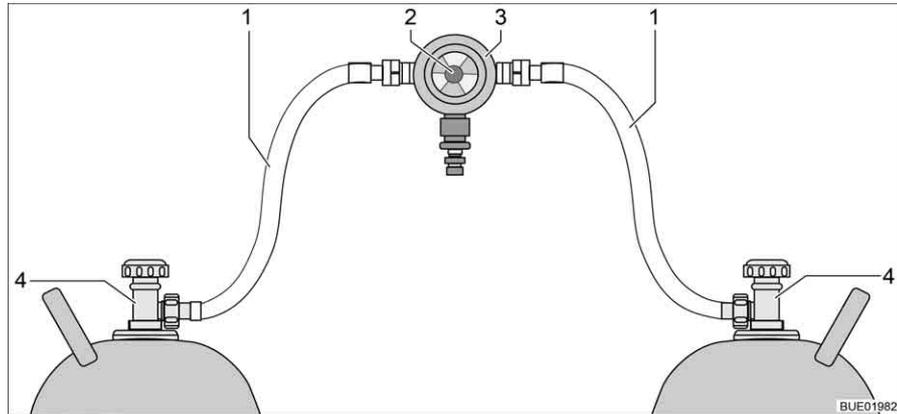
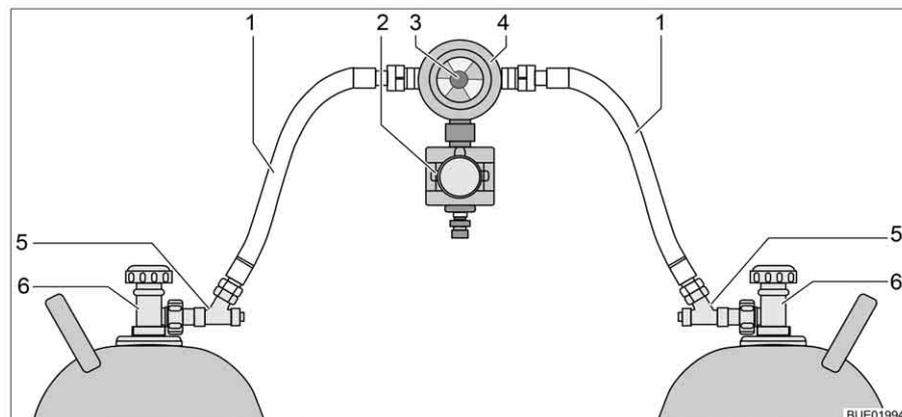

Fig. 112 Gas bottle switching facility
Fig. 113 Gas bottle switching facility with CPU
The gas bottle switching facility consists of a combined gas pressure regulator with reversing valve and indicator (Fig. 112,3). The gas bottle switching facility is installed between the two gas tubes (Fig. 112,1).
The gas bottle switching facility consists of a combined gas pressure regulator with reversing valve and indicator (Fig. 113,4), and an electrovalve (Fig. 113,2). The electrovalve blocks the gas supply to the vehicle in the event of a full braking, an accident, or an unusually great inclined position. The gas bottle switching facility is installed between the two gas tubes (Fig. 113,1) with hose break guards (Fig. 113,5).
**Function** The gas bottle switching facility ensures a constant gas pressure, regardless of which gas bottle is being drawn upon. The display in the reversing valve shows the filling level of the primary bottle. The gas supply comes from the primary bottle when the display is green. When the display is red the primary bottle is empty. In this case, the reserve bottle is used for the gas supply. Use the knob (Fig. 112,2 or Fig. 113,3) on the gas bottle switching facility to select which of the gas bottles is to be used as a primary bottle and which is to be used as a reserve bottle.
Only the electrical functions can be switched at the operating unit (Fig. 114). The regulator taps on the gas bottles (Fig. 112,4 or Fig. 113,6) must be opened and closed manually.
- Open the regulator taps of the gas bottles (Fig. 112,4 or Fig. 113,6).
- Press the hose break guards (Fig. 113,5) successively for 10 seconds.
- Use the knob (Fig. 112,2 or Fig. 113,3) on the switching facility to select the gas bottle which is to be the primary source of gas (primary bottle). Always turn the knob as far as it will go.
- Close the regulator taps of the gas bottles (Fig. 112,4 or Fig. 113,6).